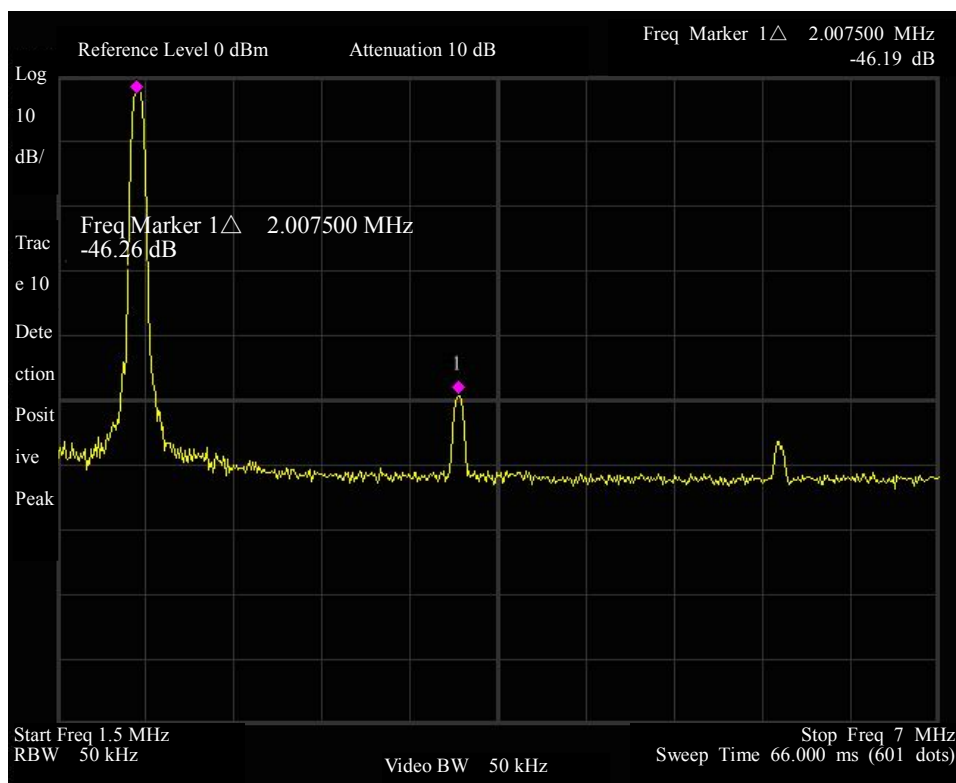

Fig. 3-18 Harmonic Distortion in dB
At this time, fix the frequency marker at the fundamental wave and the second frequency marker at the peak of second harmonic. Read the measuring results as shown in Fig. 3-18.
- (1) Connect the measured device with spectrum analyzer as shown in Fig. 3-18. This example